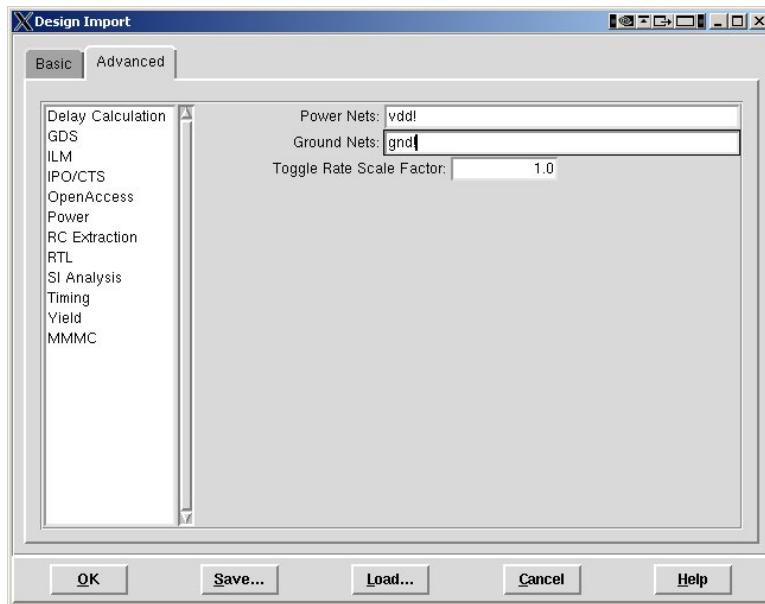

Figure 10.7: Design Import Power tab
**Power:** Enter the names of your power and ground nets. If you're following the class design requirements this will be **vdd!** and **gnd!** (Figure 10.7).